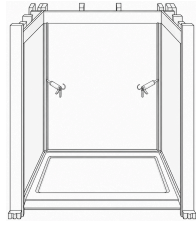

Fig. 32: Caulk the inside seams
6.  **Caulk the inside seams.** Apply a bead of 100% clear or T200 color-matched silicone sealant to all inside seams (Fig. 32).